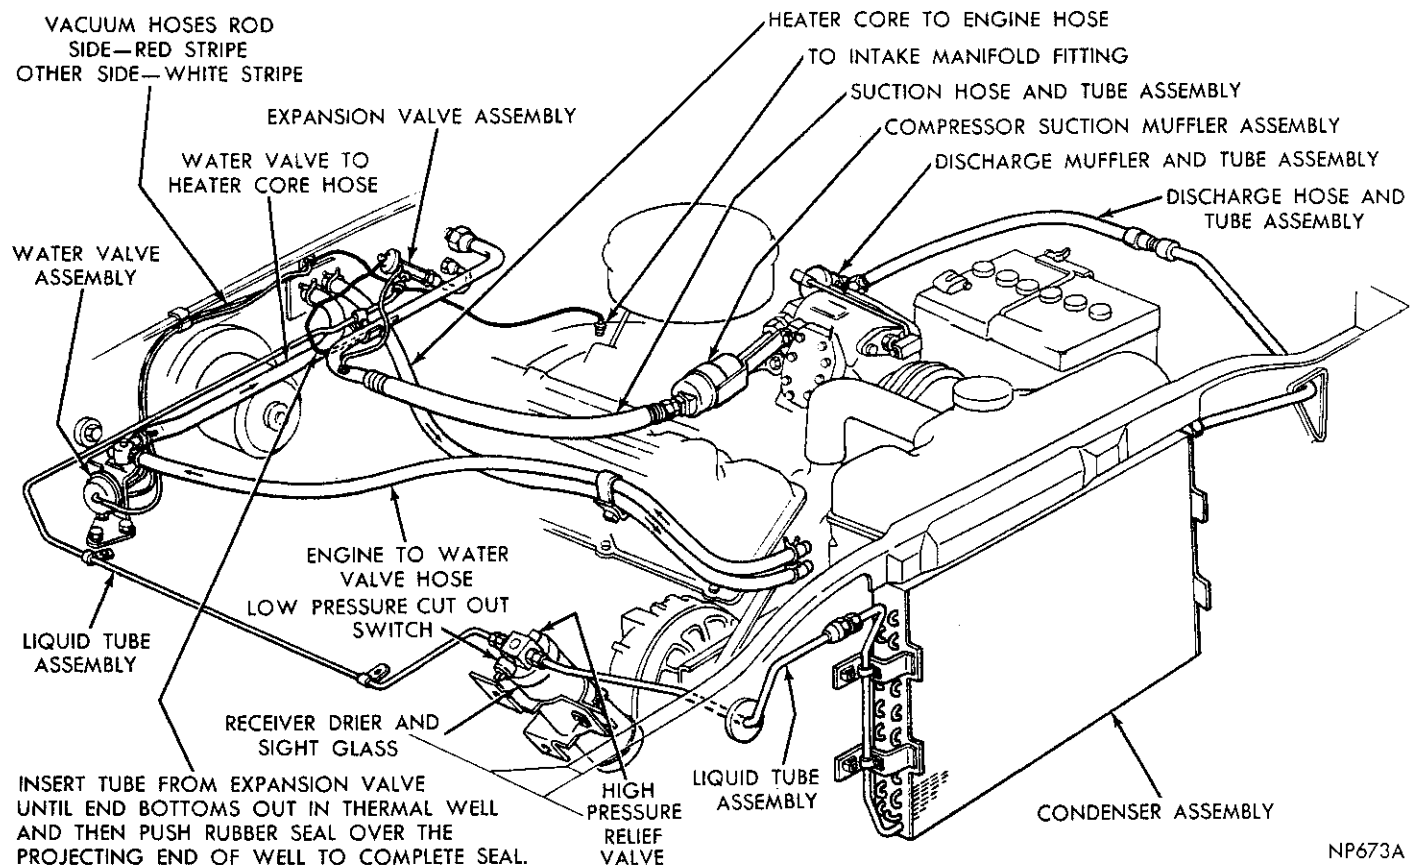

Fig. 12—Air Conditioning and Heater Plumbing (Dart) 198 and 225 Cu. In. Engine
(12) Install right defroster tubing, glove box assembly and air outlet assembly.
(13) Install heater hoses (Figs. 12 and 13), fill cooling system, connect battery terminal and install air cleaner.
(14) Start engine, operate until normal engine operating temperature is obtained and test operation of heater assembly.